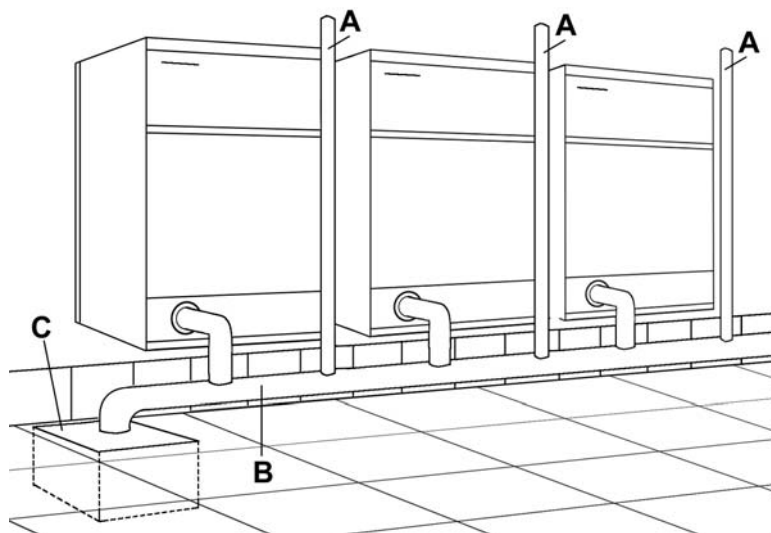

fig. 8
**Direct connection of the washer drain to the sewer (fig.8).**
The emptying of the drain trap to the sewer system is done through an open drain box (**fig. 8/B** and **C**) which prevents variations in pressure and backflow to the drain. **The end of the drain trap must not be sunk in the box.**